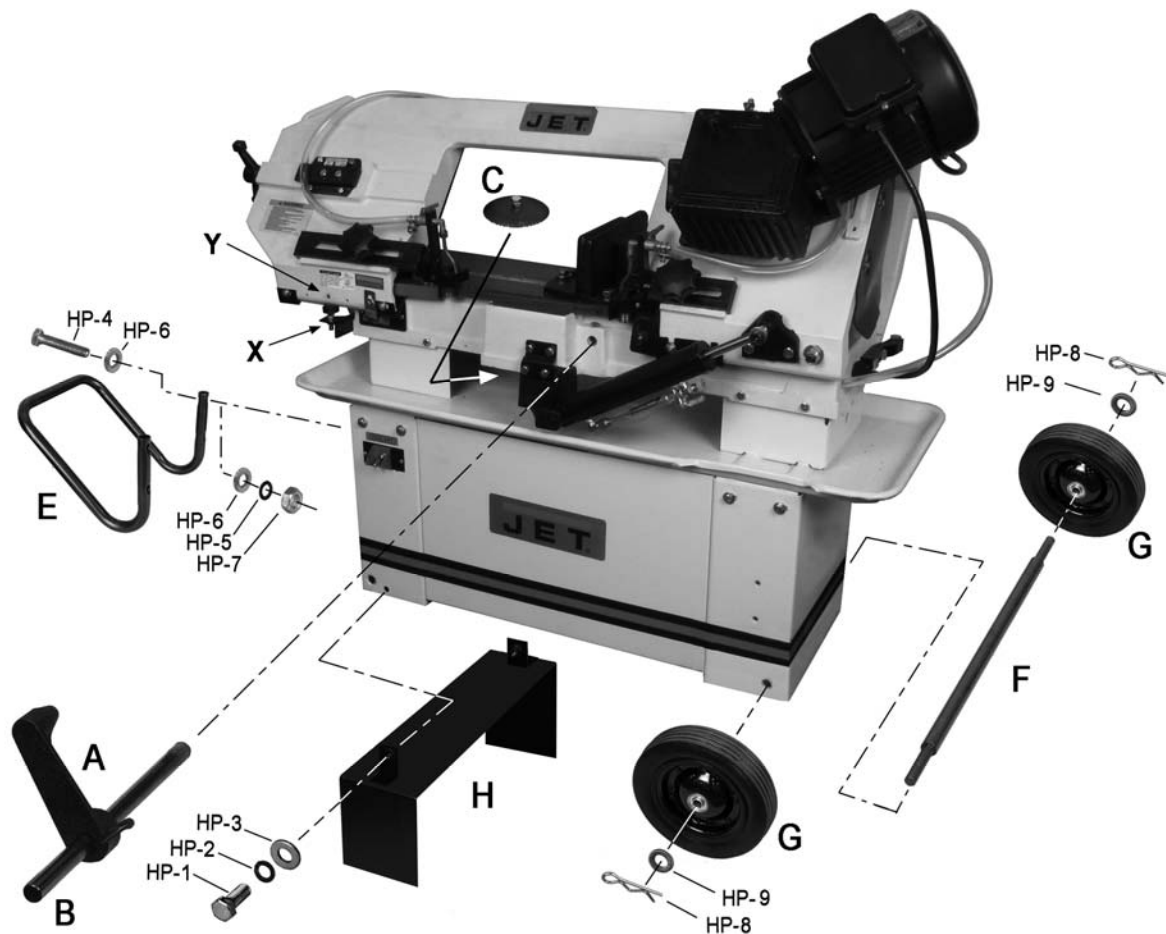

Figure 4
Refer to Figure 4.
3. Use blocking beneath saw, and install foot stand (H). Secure with four screws and washers (HP-1/2/3).
5. Slide workstop rod (B) into hole on saw base and slide workstop (A) onto rod. (NOTE: Do not insert rod too far so that it hits the vise leadscrew).
6. Install handle (E), and place filter screen (C) over coolant drain hole in pan.
7. Remove stop bolt (X, Figure 4) and remove shipping bracket (Y). Retain bracket in case you must transport the machine in the future. **Reinstall stop bolt.**
**CAUTION** After removal of shipping bracket (Y), the stop bolt (X) must be reinstalled and properly adjusted to prevent damage to the on/off switch.